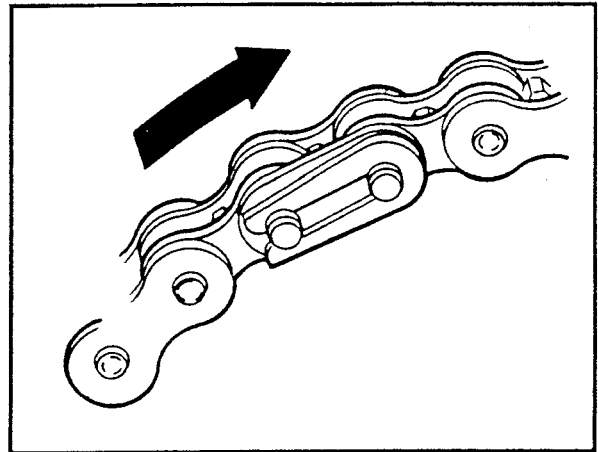

Figure 2-118. Master Link Clip Installation
3. See Figure 2-118. At installation, be sure the master link clip is installed with its closed end facing the direction of chain travel.